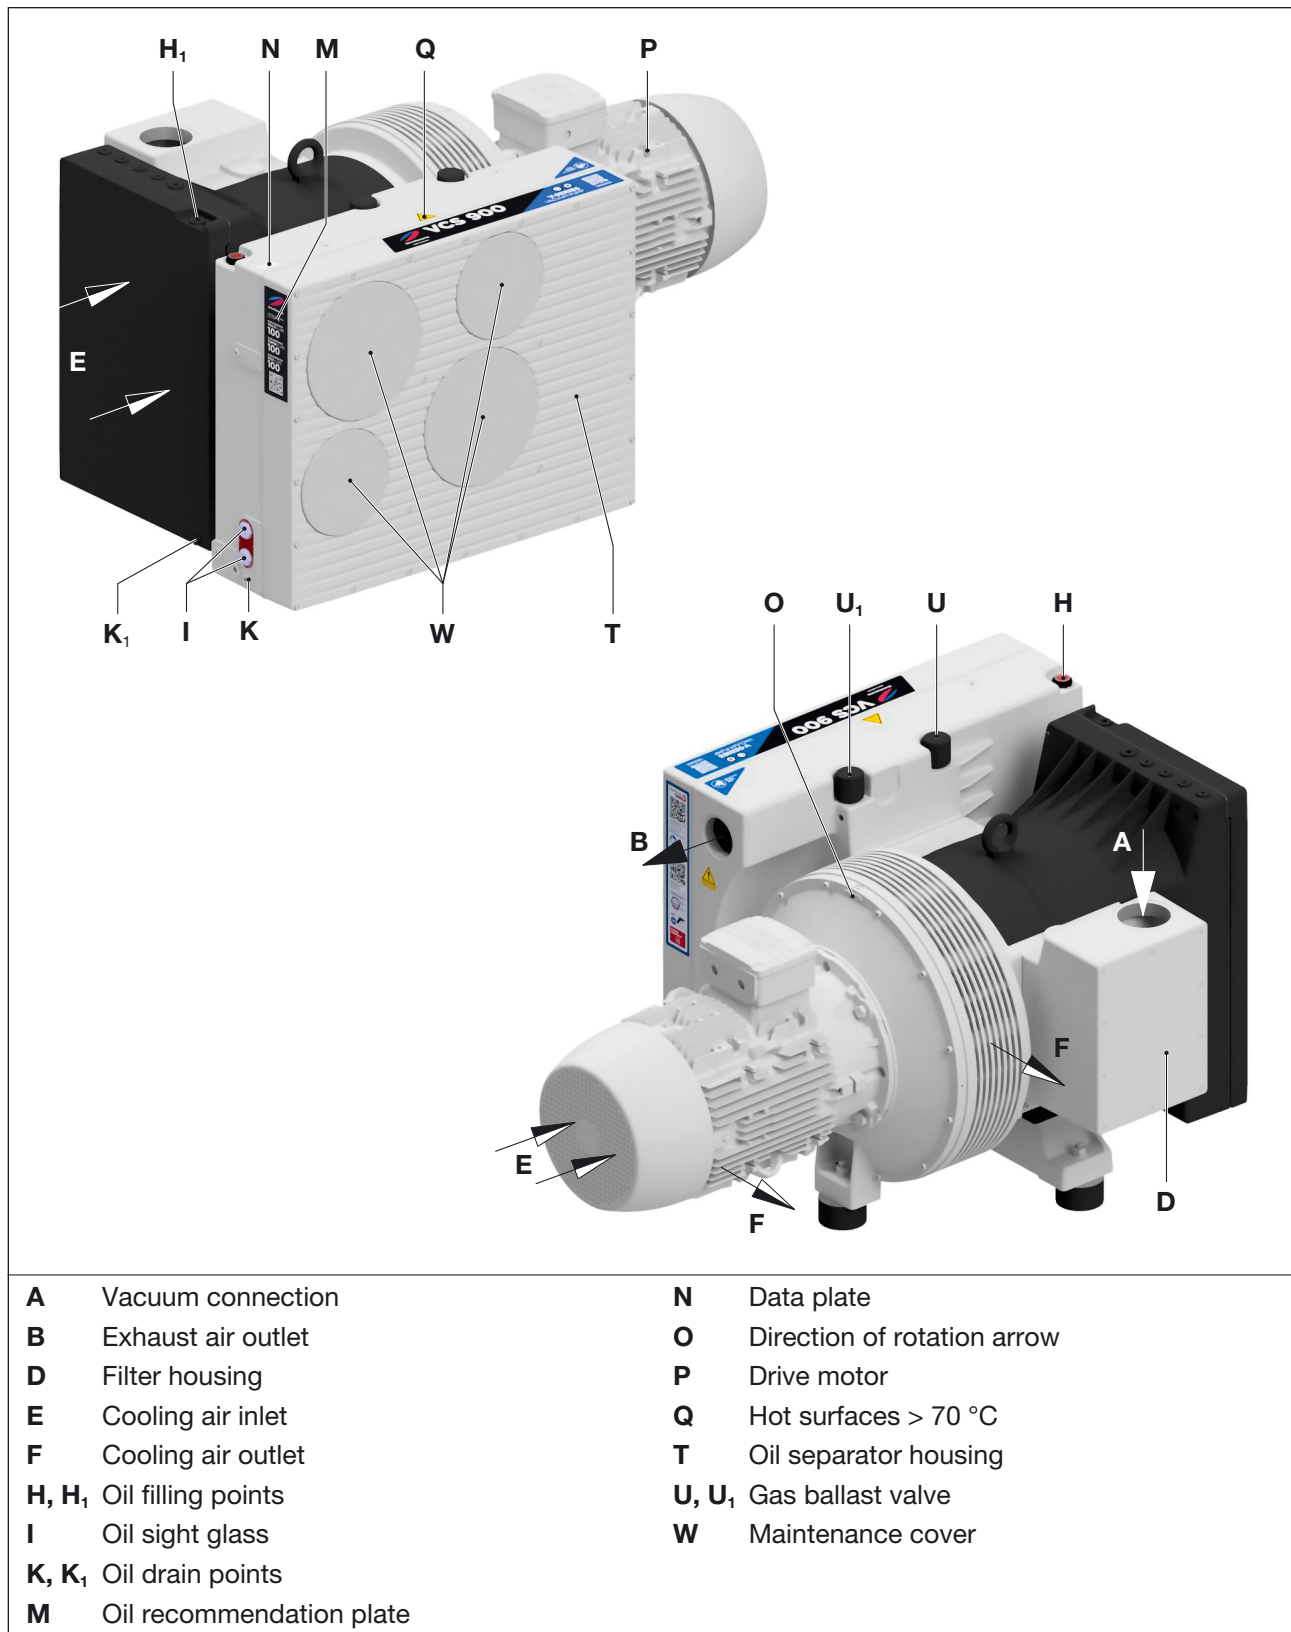

Fig. 2 Vacuum pump V-VCS 400–900
- Filter housing (Fig. 2/D), Oil filling point (Fig. 2/H, H1), Oil sight glass (Fig. 2/I), Oil drain (Fig. 2/K, K1), Gas ballast (Fig. 2/U) and de-oiler housing (Fig. 2/T) must be easily accessible.
The vacuum connection (Fig. 2/A) is located on the Filter housing (Fig. 2/D).
- a) Remove the blind plugs on the suction connection (Fig. 2/A) and exhaust air outlet (Fig. 2/B).
- b) Connect the pipes with the vacuum connection (Fig. 2/A).
- c) The exhausted air can be blown out through the exhaust air outlet (Fig. 2/B) or conducted away using a hose or pipeline.